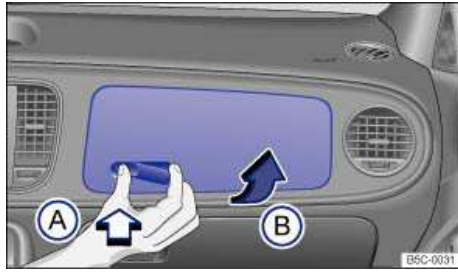

Fig. 103 On the passenger side: Opening the upper glove compartment (if equipped).
- To *open*, press on the depression in the opening handle ⇒ fig. 103 (arrow (A)). Then lift the glove compartment lid upward using the handle (arrow (B)).
To *open*, pull the handle ⇒ fig. 103 A in the direction of the arrow.